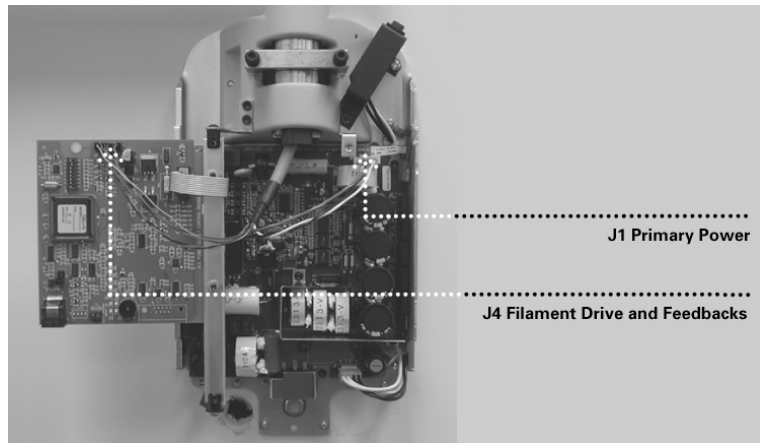

Figure 15: Connecting the Horizontal Arm Cables to the Control Unit
1. Verify that the black connector from the Horizontal Arm is attached to point J4 of the Power Supply Control Board 30-08043, as shown in Figure 15.
2. Verify that the white connector from the Horizontal Arm is attached to point J1 on the Power Supply Board 30-08041, as shown in Figure 15.